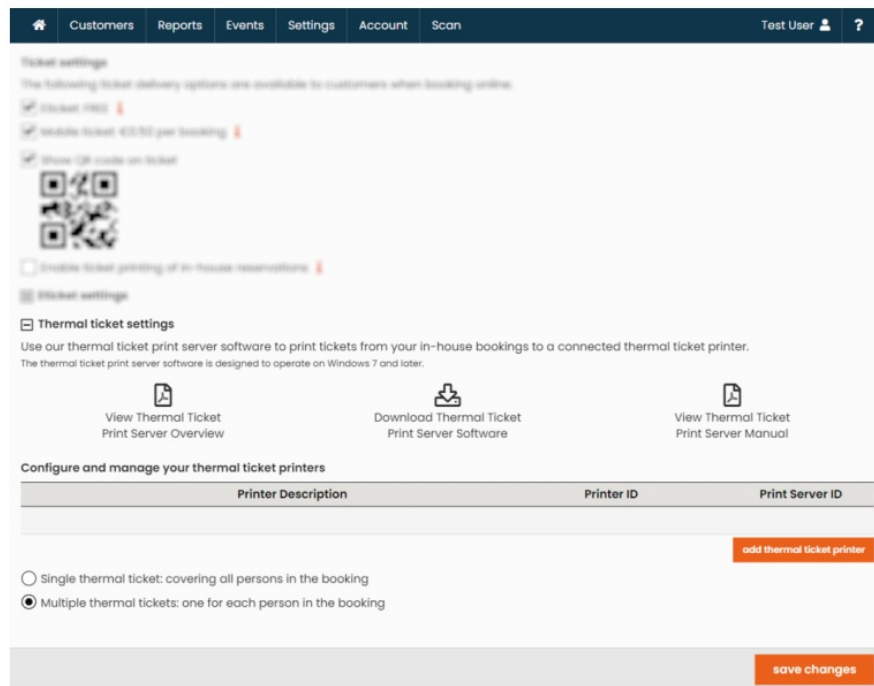

Figure 2: Thermal Ticket Settings
- click the “Thermal Ticket Settings” section (figure 2).